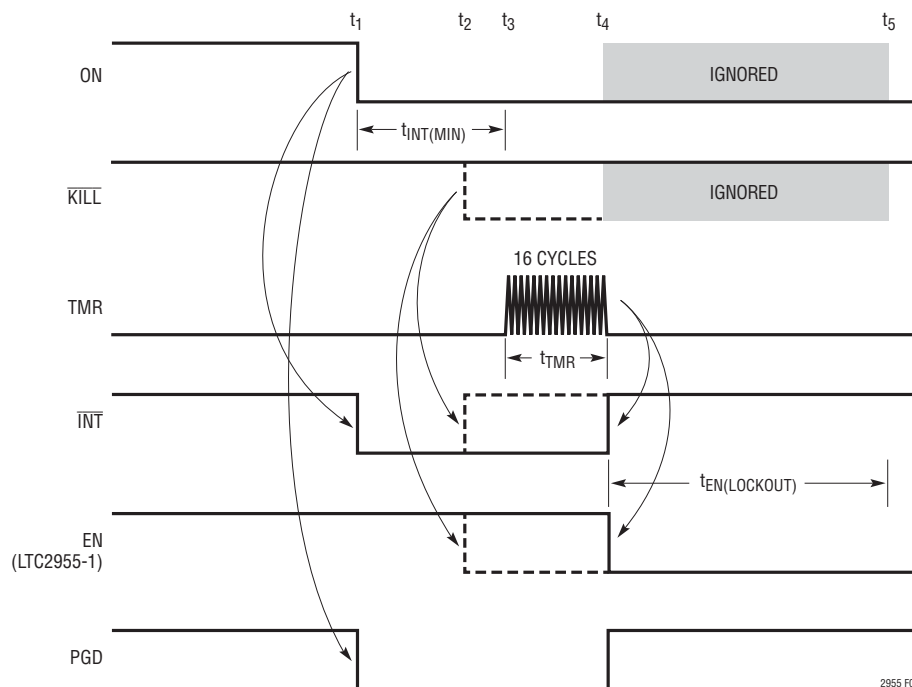

Figure 5. ON Pin Turn-Off Timing (DFN Only, $V_{SEL} > 1.2V$ and the Preceding Turn-On Sequence Was Initiated by the ON Pin Rising Edge)
Figure 5 shows the turn-off sequence of the LTC2955-1 initiated by the ON pin. The timing sequence is slightly different from that by the pushbutton as there is no debounce time ($t_{DB(OFF)}$) before the \overline{INT} pin pulls low. The ON pin falling edge can start the turn-off sequence only if the following two conditions are met: (1) The preceding turn-on sequence was initiated by the ON pin rising edge, and (2) The SEL pin must be tied high ($>0.8V$). For TS8 package, the ON pin falling edge is ignored.
In Figure 5, a high to low transition at ON (t_1) starts the turn-off sequence. The interrupt output (\overline{INT}) is asserted immediately when the ON pin goes low. Unlike the \overline{PB} pin turn-off sequence, there is no 32ms debounce time ($t_{DB(OFF)}$) for the ON pin going low. This allows the system to initiate a shutdown as soon as the monitored supply is removed and allows the μP the maximum amount of time
to perform power-down functions. The \overline{INT} pin will stay low for at least 32ms ($t_{INT(MIN)}$). When the μP receives this interrupt signal, it should start to perform its power-down functions and assert the \overline{KILL} input low (t_2) once it is done. The LTC2955-1 will then release the EN and \overline{INT} outputs, thus turning off the system power, as shown with dotted lines in Figure 5.
If the μP fails to respond (\overline{KILL} pin remains high, as shown with solid line in Figure 5) and the ON pin remains low 32ms after \overline{INT} goes low, the external timer will start counting for 16 cycles (t_{TMR} , t_3 to t_4). If the ON pin remains low at the end of the 16 cycles (t_4), the LTC2955-1 will force the EN pin low and the \overline{INT} pin high. See Applications Information for adjusting t_{TMR} .
The LTC2955 allows the user to force the system power to turn off if the μP fails to respond during fault conditions. As shown by the solid lines in Figure 3 and Figure 5, when the μP fails to bring the $\overline{\text{KILL}}$ pin low after the interrupt signal is asserted, the user can force a turn-off by holding down the pushbutton. The length of time that $\overline{\text{PB}}$ must be held low is given by a fixed 64ms delay ($t_{\text{DB(OFF)}} + t_{\text{INT(MIN)}}$) plus an adjustable power-down timer delay (t_{TMR}). The adjustable delay is set by placing an optional external capacitor on the TMR pin. Use the following equation to calculate the capacitance for the desired delay. C_{TMR} is the external capacitor at the TMR pin: